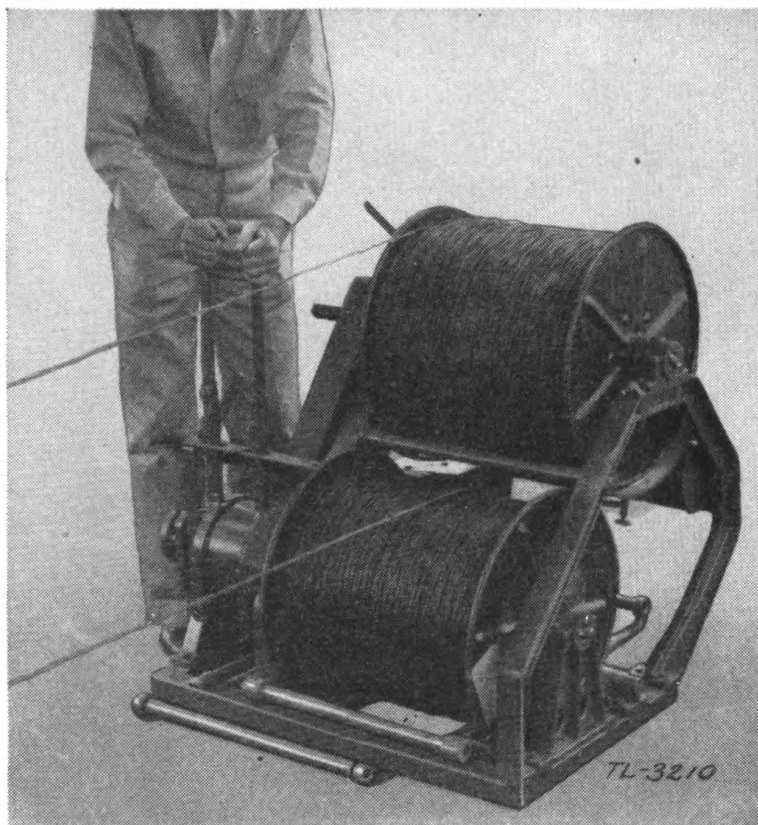

FIGURE 8.—Ground installation of an RL-26.
10. Installation.—*a. Stationary installation.*—A typical ground installation is shown in figure 8. The unit is being used for recovering wire, the gasoline engine being used as a power source. It will be
the upper reel axle through a driving sprocket, a chain, a driven sprocket, and a secondary clutch. A guard or cover is provided for the sprockets and chain (fig. 1 (16)). The lower reel clutch is controlled by the lever (9), and the upper reel clutch is controlled by the lever (10). Figure 8 shows the lever positions for engagement of both clutches simultaneously. For individual operation the same relative position applies.